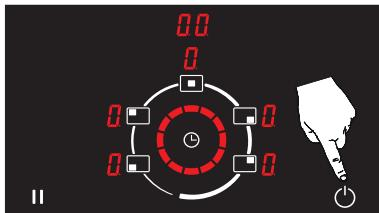

Figure 35
1. The auto cooking function ( **A** ) is terminated by pressing the on/off button ( **⊕** ). (See Fig. 35)